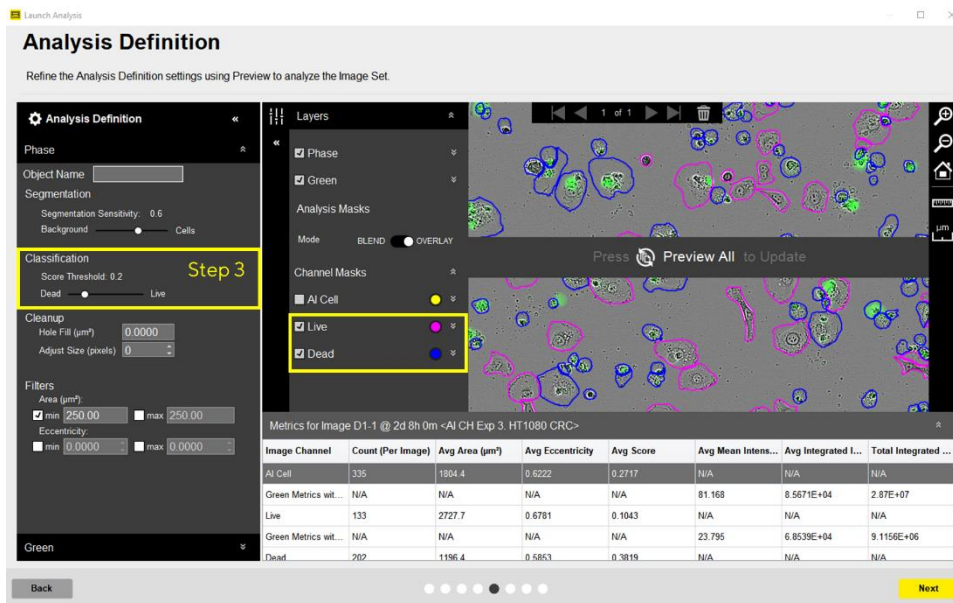

Figure 4. AI Live/Dead classification preview. Adjust the Score Threshold to preview Live/Dead classification results indicated by the masks (yellow box).
11. Assess the classification results by clicking on the Live and Dead segmentation masks (Figure 4). Outline visualization mode has a slider to adjust the outline width and can aid in evaluation of the classification mask. The default classification mask colors can be changed to assist visualization.
12. Optimize the Live/Dead classification by moving the Score Threshold slider (Figure 4, Step 3). Cell death is a process that occurs over time and can be captured at all stages with live-cell imaging. The observed morphology as cells die exists on a spectrum with live, healthy cells at one end and dead cells at the other. The Score Threshold slider allows users to alter this threshold between live and dead cells.